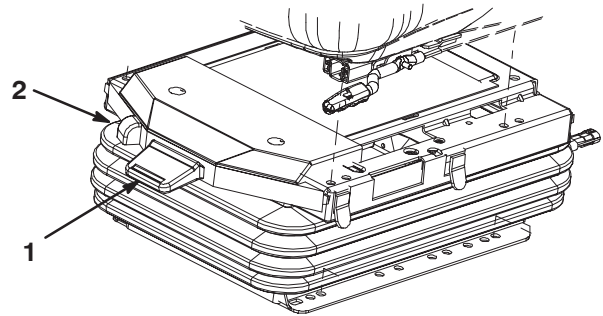

Figure 8
- Weight Adjusting Lever—Adjust for operator weight (Fig. 8).
- Weight gauge—Indicates when the seat is adjusted to the weight of the operator (Fig. 8). Proper adjustment is attained when the gauge is in the green region. Height adjustment is made by positioning the suspension toward the lower or upper range of the green region.